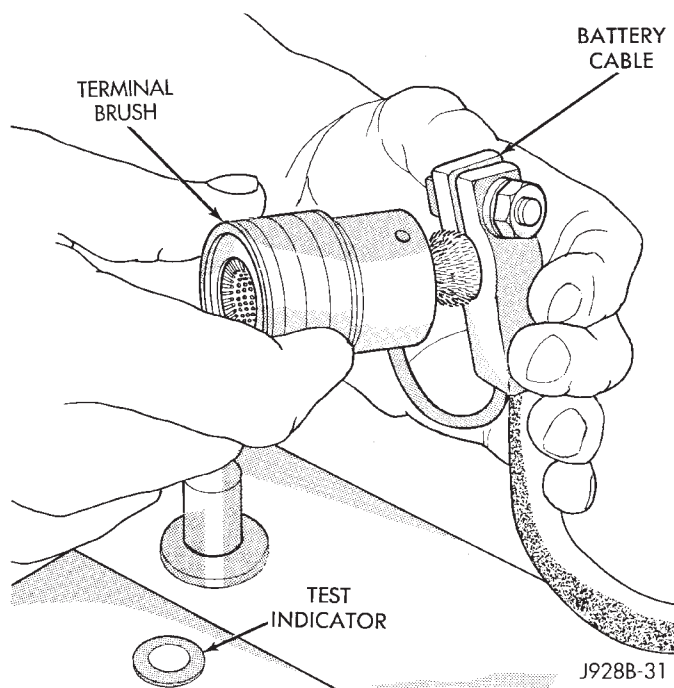

Fig. 17 Clean Battery Cable Terminal Clamp- Typical
(3) Inspect the cable terminal clamps for corrosion and damage. Remove any corrosion using a wire brush or a post and terminal cleaning tool, and a sodium bicarbonate (baking soda) and warm water cleaning solution (Fig. 17). Replace any cable that has damaged or deformed terminal clamps.